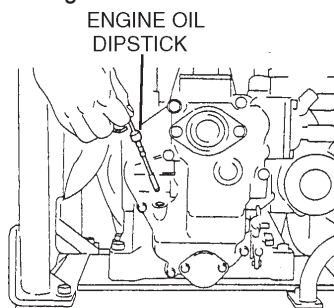

Figure 5. Oil Dipstick Removal
2. **Pull** out the dipstick from the oil tank (Figure 5).